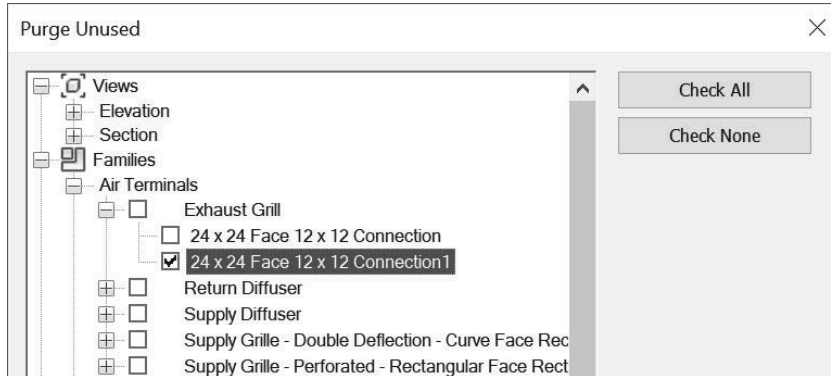

Figure 1–44
2. In the *Purge Unused* dialog box, click **Check None**, then expand **Air Terminals>Exhaust Grill**. Select **24 x 24 Face 12 x 12 Connection1**, as shown in Figure 1–44.